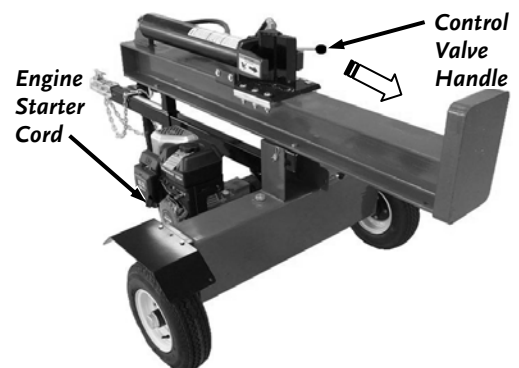

Figure 26
- Push the control valve handle to the forward position (towards the front of the cylinder) (**Figure 26**). Have another person pull the engine starter cord (about 15 times) until the cylinder piston moves forward. (Keep everything away from the splitting wedge during this step.)